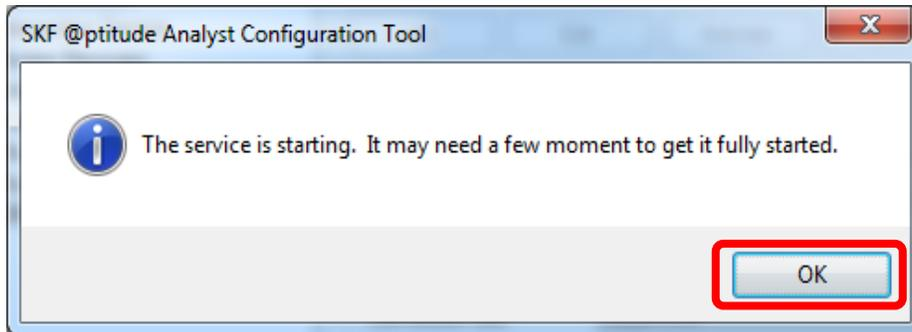

Figure 7. Service is starting
14. After a few moments of processing, a message will be displayed confirming that the service is starting. [Figure 7] Click **OK** to continue.